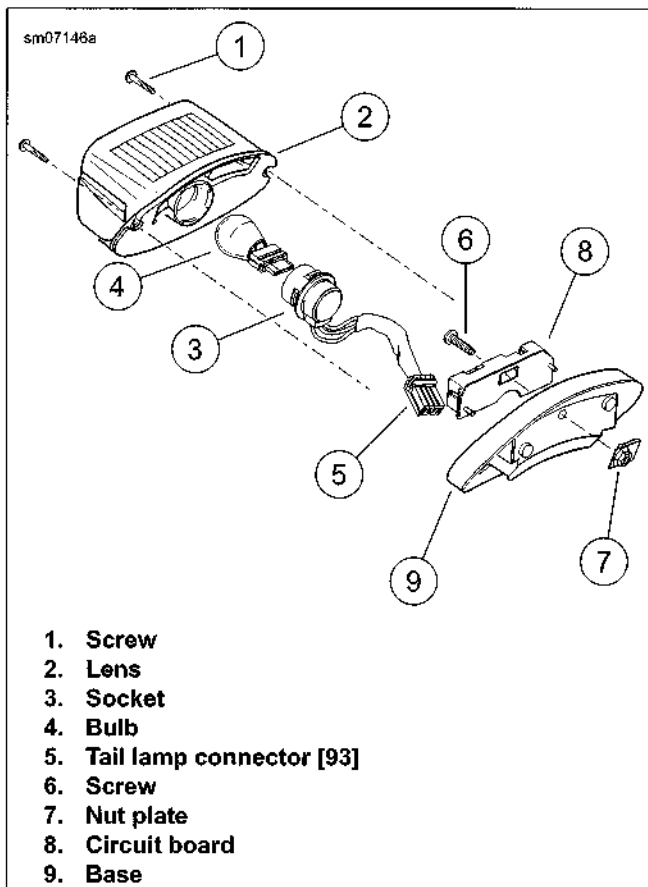
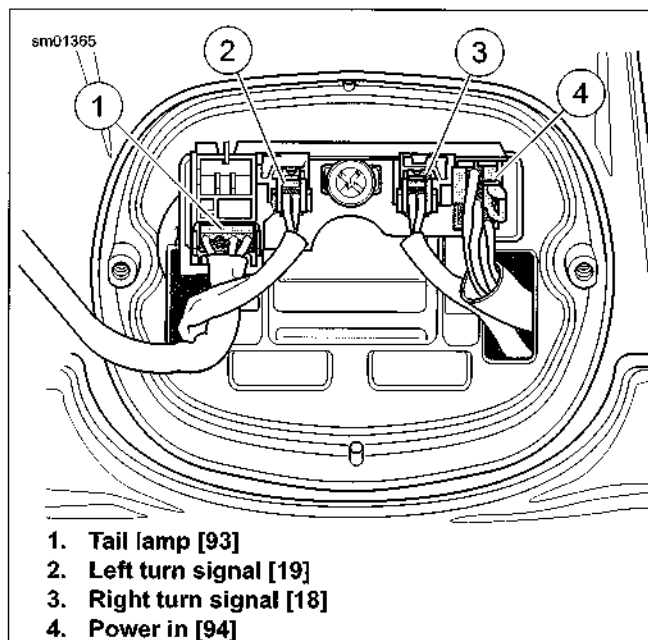

Figure 6-42. Tail Lamp Assembly: XL 883R/L, XL 1200T
Figure 6-43. Tail Lamp Base Connectors
2. See Figure 6-42. Remove two screws (1) and lens (2) from base (9).
3. See Figure 6-43. Press locking tab. Remove 4-pin multilock connector [93] (1) from circuit board.
4. Press locking tabs. Remove right [18] (3) and left [19] (2) two 2-pin turn signal connectors and 6-pin connector [94] (4) from circuit board.
5. See Figure 6-42. Remove base:
- a. Remove screw (6) from nut plate (7).
- b. Remove circuit board (8) from base.
- c. Remove base (9) from rear fender.